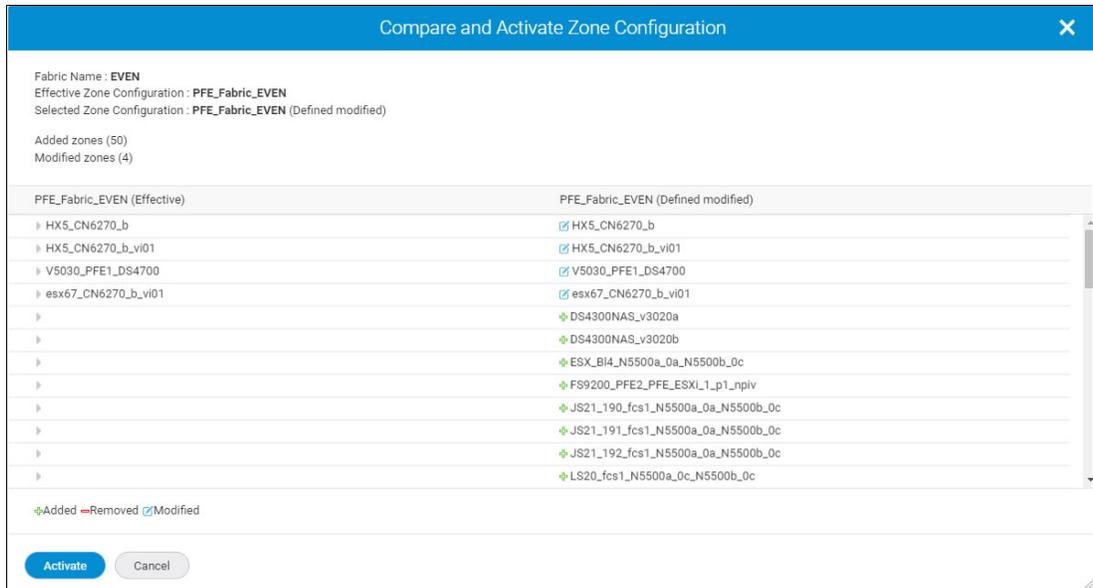

Figure 5-40 Compare and Activate
6. The Compare and Activate Zone Configuration window opens. Click **Activate** to activate the zone configuration, as shown in Figure 5-40 on page 143.